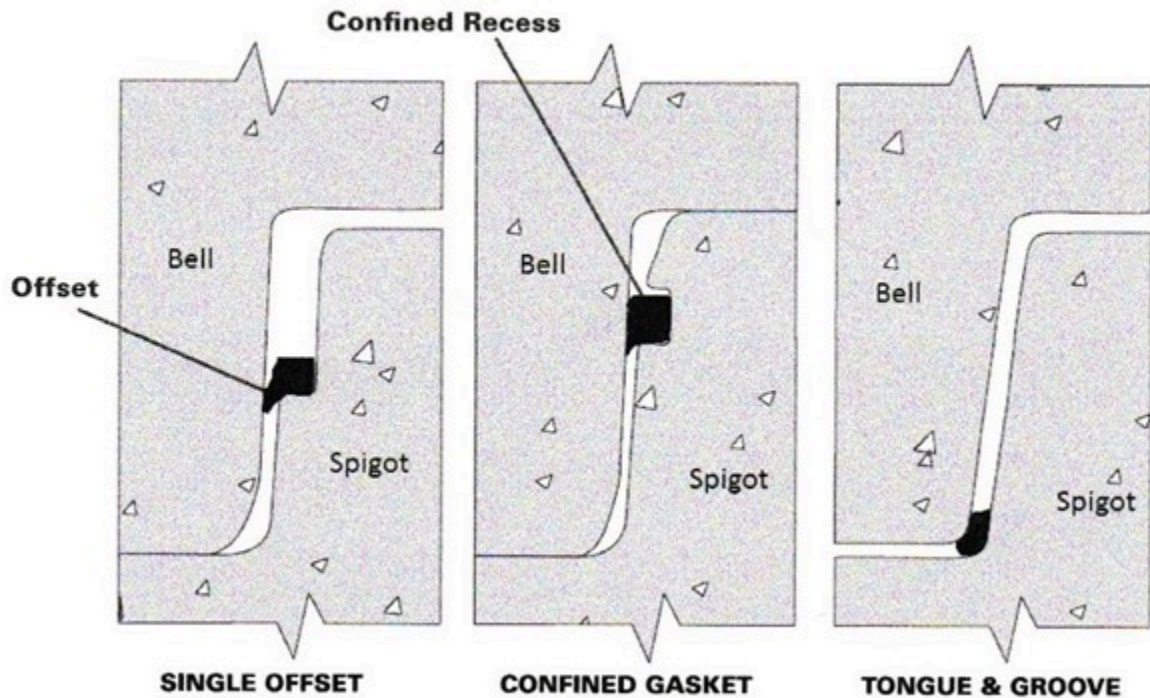

Figure 2 Manhole section seals
- Figure 2 Manhole section seals © photo courtesy of the National Precast Concrete Association.